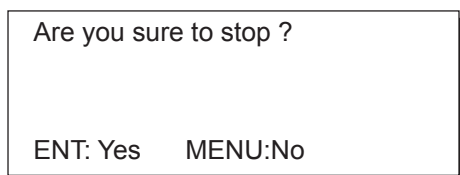

Figure 8-16
- 1) Press the **MENU ESC** key. The message shown in Figure 8-16 appears.